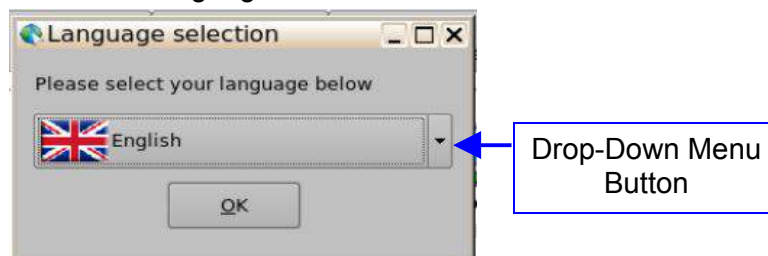

Figure 120: Language Selection Window
- Select the drop down menu button (Figure 120).